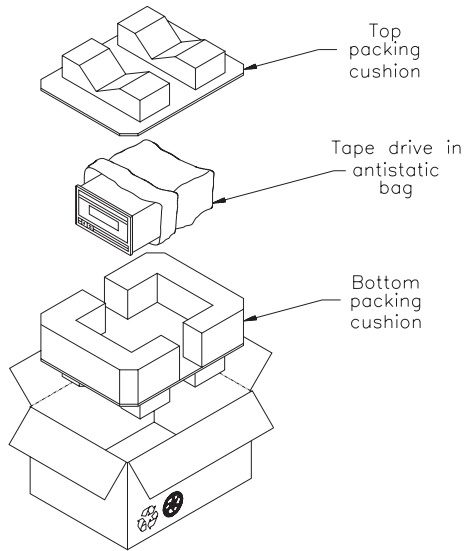

Figure 13 Single-pack carton and packing materials
You can ship the tape drive with either one drive per carton (single-pack) or with four drives per carton (four-pack). Figure 13 on page 34 shows the single-pack carton and packing materials.
5. **Single-pack shipping carton (Figure 13):**